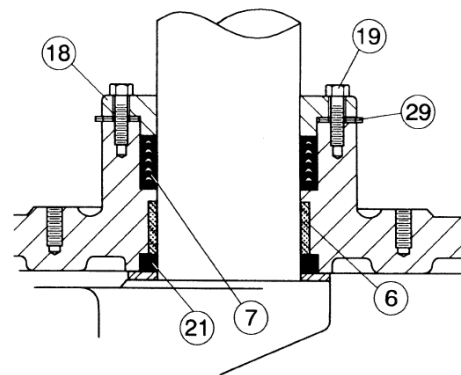

FIGURE 13. PACKING ASSEMBLY
Remove the small round cover on actuator to expose shaft and key. Remove actuator mounting bolts and lift actuator from valve taking care not to lose square key. See Figure 13 and remove gland bolts (19) and lift follower (18) from the valve shaft. Remove old packing (7) with packing hook. Lubricate new packing with FDA grease and set in place one ring at a time taking care not to bend over the lips of the packing rings. Reinstall follower with 2 shims (29) per bolt (3 shims for 12" and larger valves). With valve in the closed position, place the actuator over valve and reinsert key (24). Finally, reinstall cover on actuator indicating "Closed".
Referring to Figure 13, remove follower bolts (19) and side follower (18) up to actuator. Remove packing adapters and rings (7) with packing hook. Cut rings with knife to remove. New packing rings should be cut at a 45 degree slope to allow insertion around the shaft and provide some overlap. Install rings one at a time with the tips down toward the valve. Stagger all joints 180 degrees around the shaft. Pull down